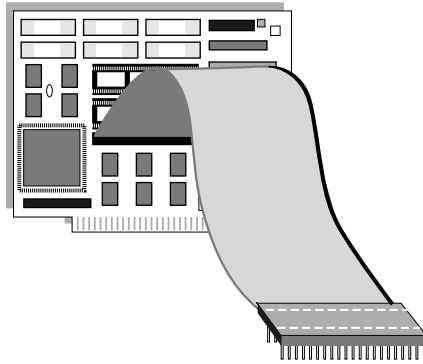

Figure 2: Tiny Turbo XTra with cable
**NOTE:** *The cable has a colored stripe on the end indicating Pin 1 and Pin 40. Plug in the cable so that this stripe is on the same side as the indentation on the 8088, 8088-2 or V-20 socket. See Figure 2, next page.*